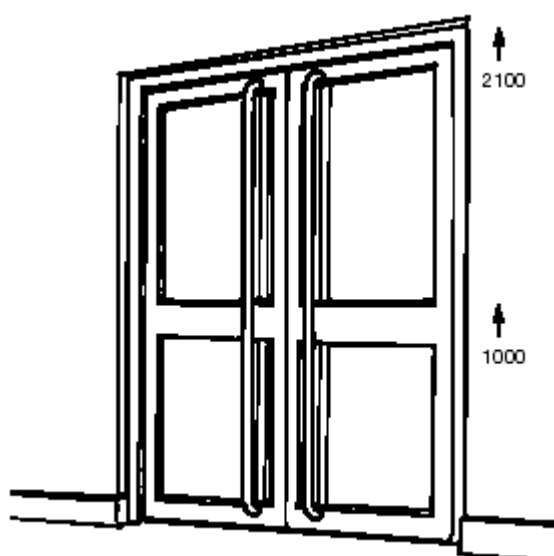

Figure 7: Doors with full-height pulls
- 4.23 Full-height tubular pull handles have been found effective in resisting impacts from wheeled traffic, as suggested previously (see Figure 7).